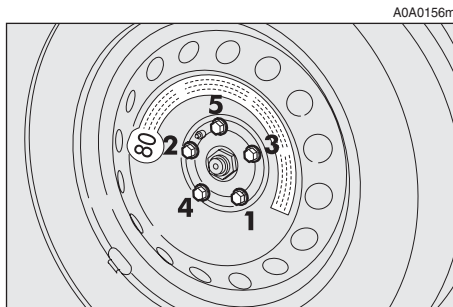

fig. 8
– Using the wrench provided, fully tighten the bolts in the sequence shown in **fig. 8**.
– Using the wrench provided, fully tighten the bolts in the sequence shown previously for the compact spare wheel **fig. 8**.
- Using the wrench provided, tighten the bolts in the sequence shown previously for the compact spare wheel **fig. 8**.